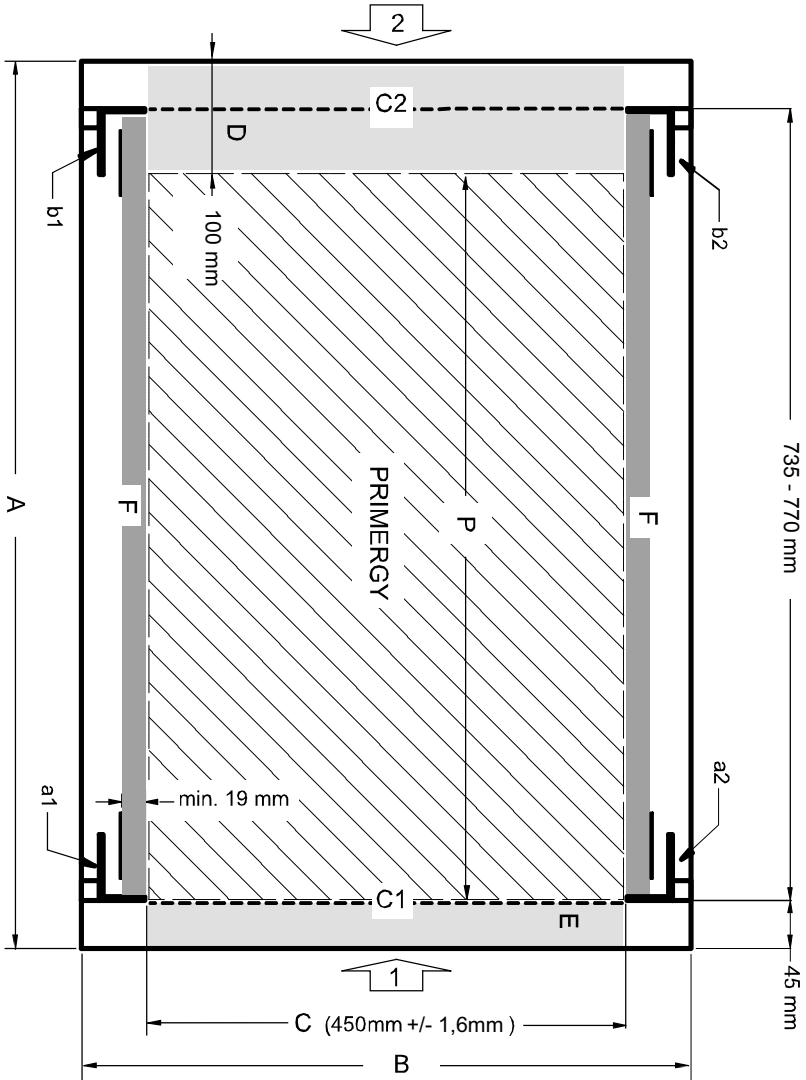

Figure 2: Mechanical requirements
- Installation dimensions (see the dimensions shown in figure 2 on page 49):